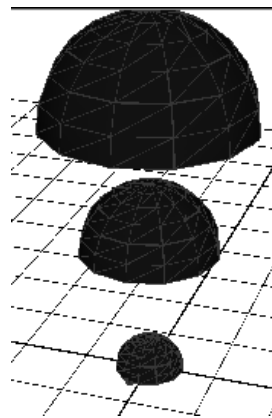

**Figure L5.7 - Three Domes**
17. Change the radius of the domes to 0.9, 1.2, and 1.5 respectively. Your display should look similar to Figure L5.7.